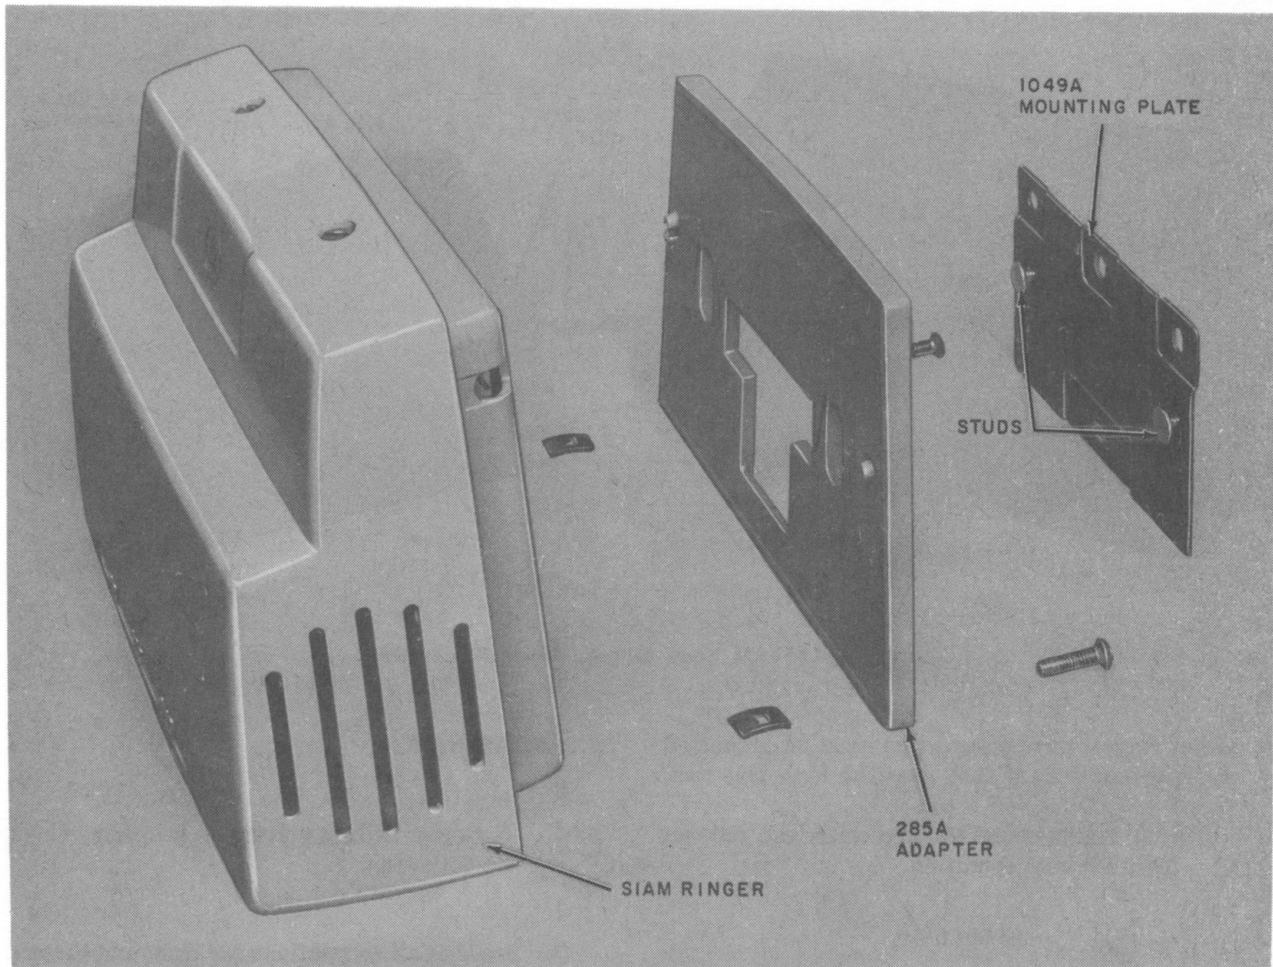

Fig. 2—S1AM Tone Ringer With Adapter and Mounting Plate
3.03 ♦The S1AM (modular) tone ringer (Fig. 2) requires a 285A adapter and a 1049A mounting plate which must be ordered separately. Install the ringer as follows: